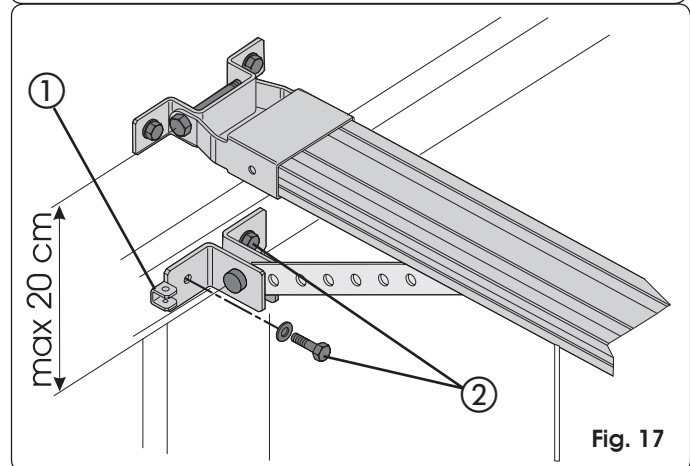
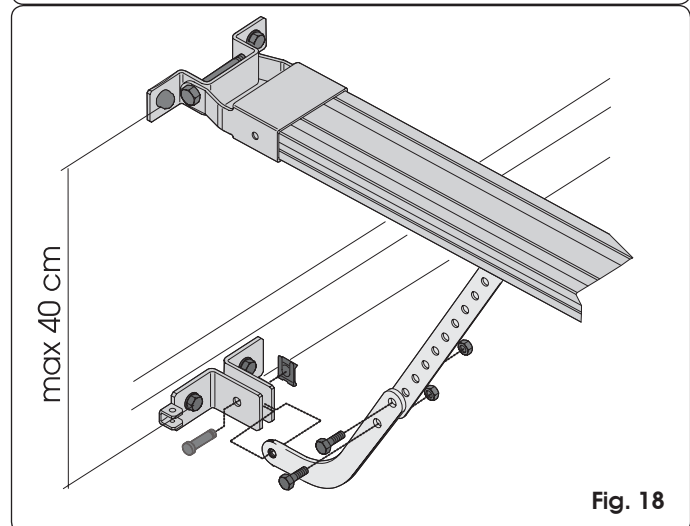

Fig. 17
Fig. 18
- 2) Position the fitting on the door so that the through-element of the release cable is facing toward the left side of the door (ref. ① Fig. 17).
- 5) Make sure that the distance between the between-centres of the front fitting and the on-door fitting does not exceed 20 cm (Fig. 17). To ensure correct operation of the automated system, we advise you to avoid arm inclinations of over 30° compared to the sliding guide. If using the curved arm for sectional doors (optional), carry out the assembly with the straight arm of the carriage as shown in Fig. 18. To improve efficiency of the anti-crushing system, we advise you to secure the fitting on the sectional door as low as possible, without, however, exceeding the distance of 40 cm from the operator's front fitting.
- 5) Mark, drill and secure the fitting to the door, using the screws (ref. ② Fig. 17) **NOT** supplied.